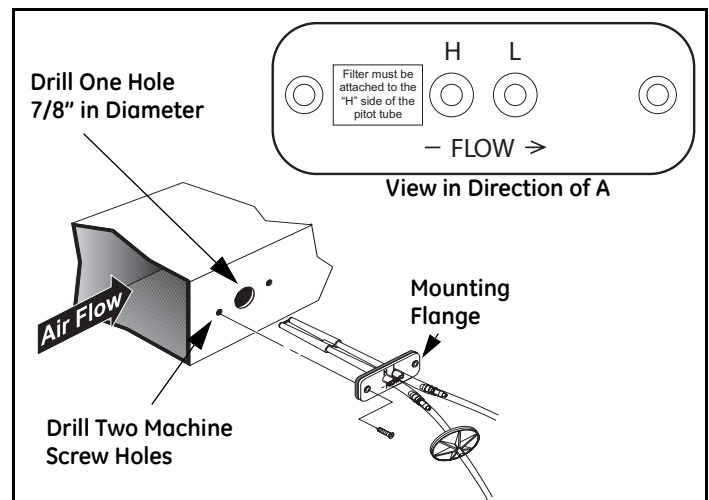

Figure 2: Pitot Tube - Installation
1. To mount the pitot tube, drill one 7/8” hole through the duct as shown in Figure 2 below.
Note: If the tubing length has been shortened, be sure the in-line filter is replaced on the pitot tube connector marked with an "H" as shown in Figure 2, View in Direction of A (on the previous page).